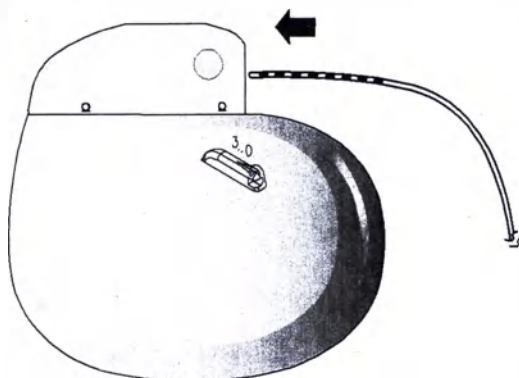

Figure 1. Insert the extension connector fully into the neurostimulator socket.
3. Insert the extension connector into the neurostimulator socket until it is fully seated within the connector block (Figure 1). If resistance is felt while inserting the connector, use the torque wrench (packaged with the neurostimulator) to retract the setscrew.